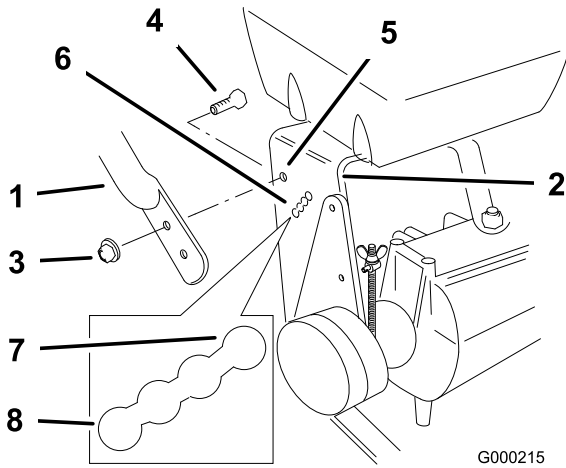

Figure 22
2. Loosen the upper flange bolts (3/8 x 1 inch) and flange nut securing handle to rear frame (Figure 22).
3. Remove the lower flange bolts (3/8 x 1 inch) and flange nuts securing handle to rear frame (Figure 22).